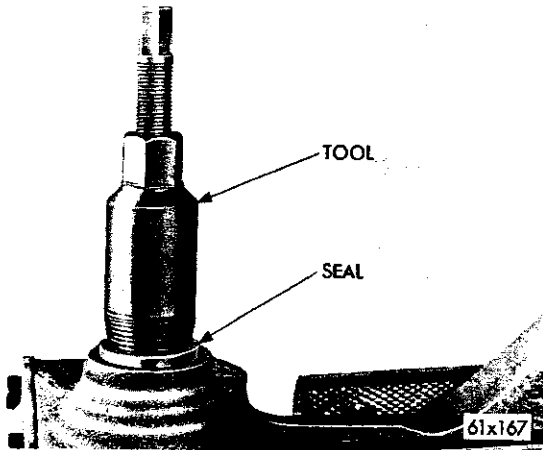

Fig. 7—Removing the Worm Shaft Oil Seal
(1) Thread Tool C-3819 far enough into the oil seal to engage the metal portion of the seal (Fig. 7). Turning the tool center screw while holding the tool body will withdraw the seal assembly from the housing bore.